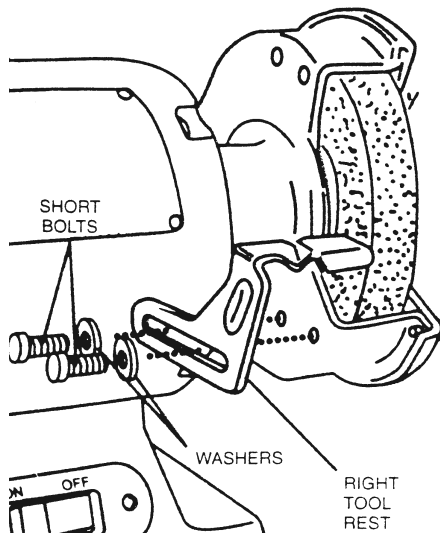

FIGURE 1
- Install adjustable rests (22 and 35) to the wheel guards (7 and 27) as shown in Figure 1. Use bolts and washers to secure them in place as shown in Figure 1.
Note: There is a left and a right tool rest. Refer to Figure 1 to be certain that you install them correctly.